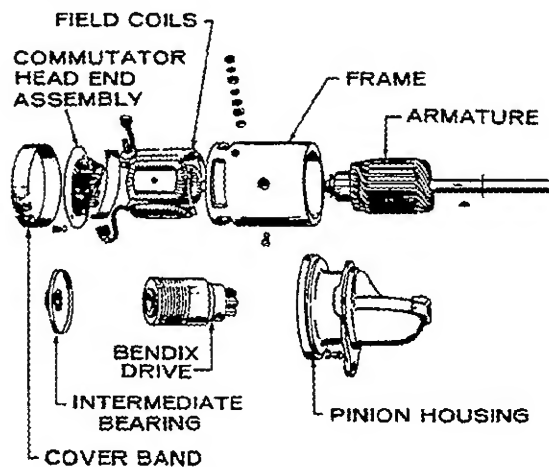

FIGURE 47. GEAR DRIVE STARTER (OPTIONAL)
6. **Gear Drive Starter Only:** The entire assembly is mounted on the armature shaft. When disassembling the starter, pay particular attention to the various parts and their positioning in the starter assembly, Figure 47. If the gears of the pinion are damaged, replace the entire pinion. Inspect the screw shaft for rust and burrs.